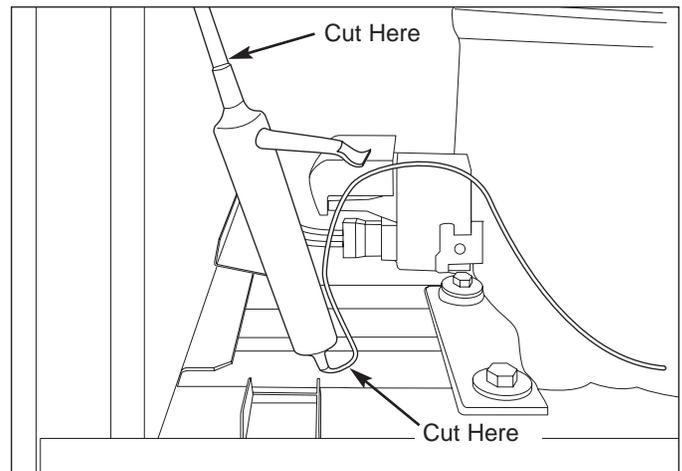

Figure 5-24. Filter-Drier Removal
The filter-drier is located in the compressor area on the left side of the compressor. (See Figure 5-24)
6. Using a 7/16" socket, remove the (4) bolts, one in each corner, holding the compressor to the base. (See Figure 5-24)